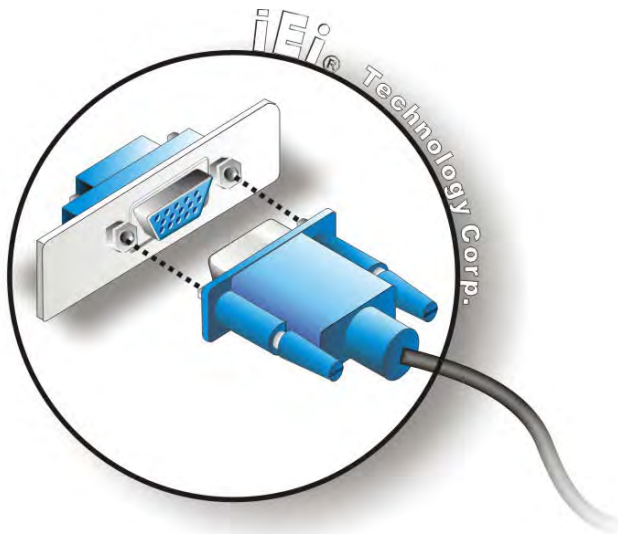

Figure 3-13: VGA Connector
Step 3: **Insert the VGA connector.** Once the connectors are properly aligned with the insert the male connector from the VGA screen into the female connector on the uIBX-230-BT. See **Figure 3-13**.